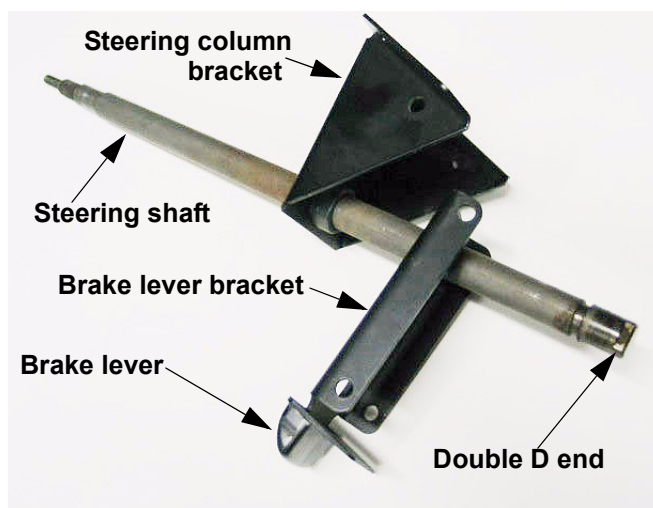

Figure 4.10
- 4.10. The steering shaft can be lifted out of the tractor along with the steering column bracket. See Figure 4.10.